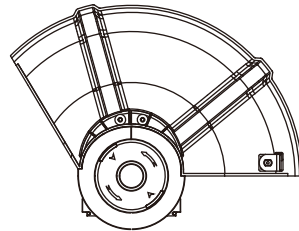

Fig. 5
1. Place the tool on its back on a clean work surface (Fig. 5).